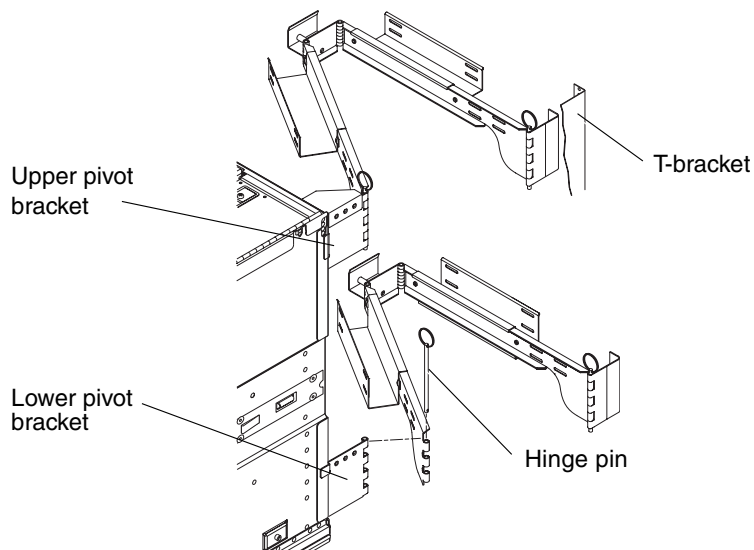

FIGURE 14-3 CMA-800
2. Remove the hinge pin to the lower pivot bracket of the power cable arm (FIGURE 14-3).
3. Loosen the two captive screws that secure the power cable arm to the bottom of the left T-bracket (FIGURE 14-3).
4. Loosen the two captive screws that secure the I/O cable arm to the top of the left T-bracket (FIGURE 14-3).
1. Remove the hinge pin to the upper pivot bracket of the I/O cable arm (FIGURE 14-3).
2. Remove the hinge pin from the lower pivot bracket of the power cable arm (FIGURE 14-3).